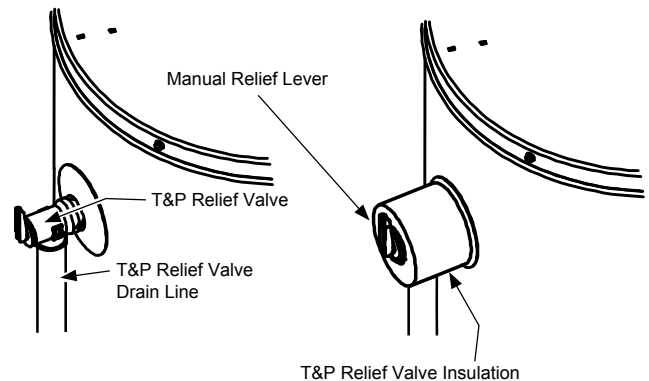

FIGURE 15B.
1. Locate the temperature and relief valve on the water heater (also known as a T&P Relief Valve, Figure 15B).
3. Spread this slit open and slip it up under the T&P Relief Valve. See Figure 15B. Apply gentle pressure to the insulation to ensure it is fully seated on the T&P Relief Valve. Once sealed secure the insulation with a section of duct tape, electrical tape, or equivalent.